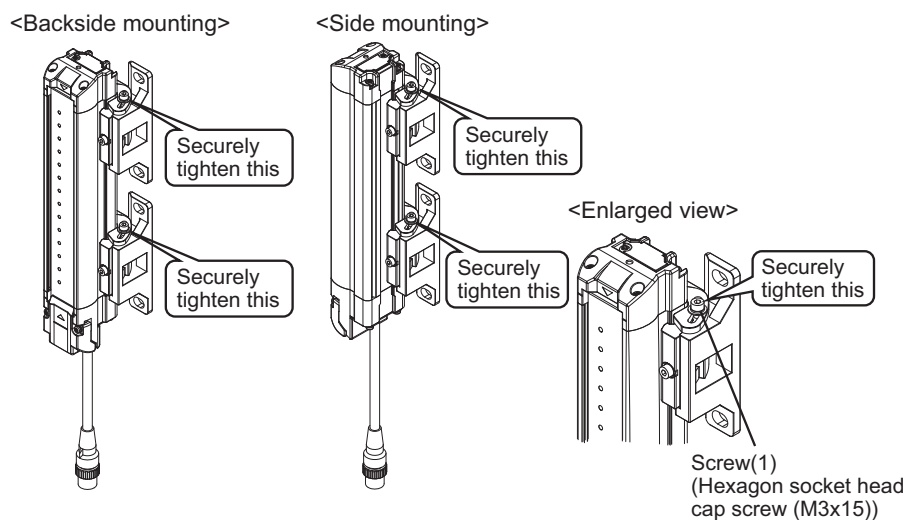

Fig. 7
7. Securely tighten the Screw (1) to fix the Standard Adjustable Bracket to the housing of the F3SG-R. The recommended torque to tighten the Screw (1) is 2.0 N•m. (Fig. 7)